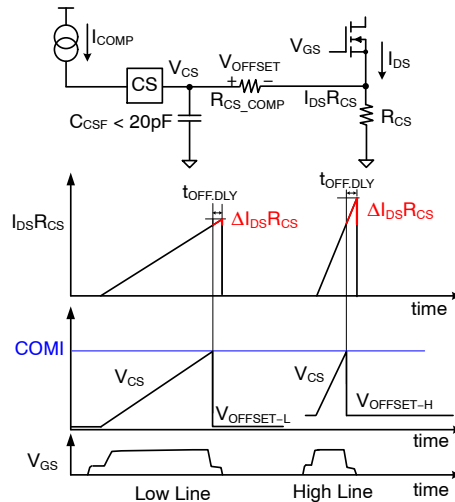
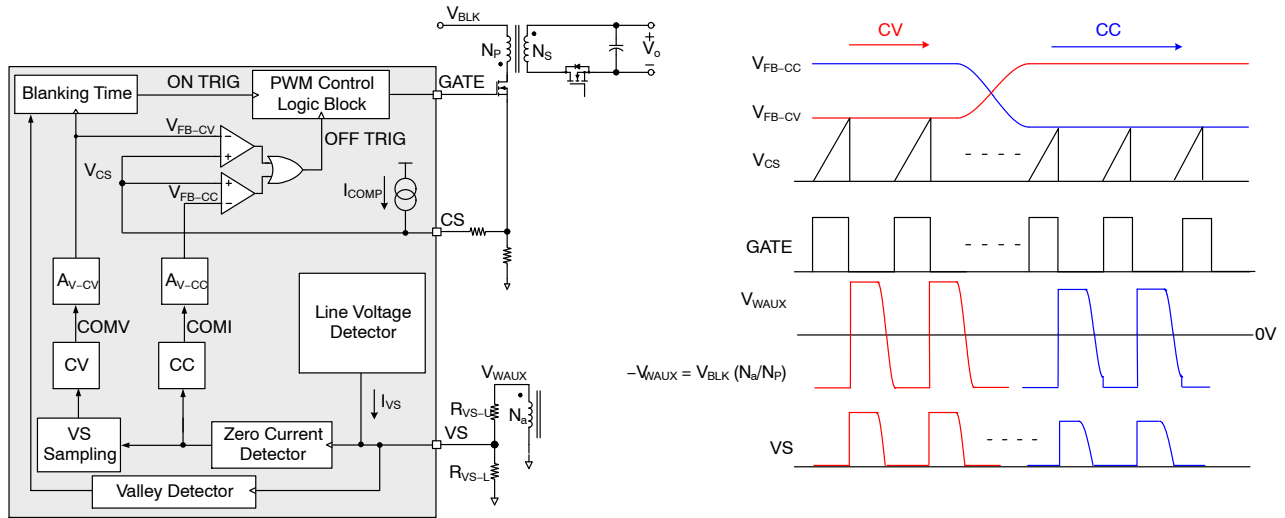

Figure 28. Line Voltage Compensation
Figure 29. Simplified PSR Flyback Converter Circuit
Line information is obtained through the line voltage detector as shown in Figure 29.  $I_{COMP}$  is an internal current source which is proportional to line voltage. The line compensation gain is programmed by using CS pin series resistor,  $R_{CS\_COMP}$  depending on the power FET turn-off delay ( $t_{OFF.DLY}$ ).  $I_{COMP}$  creates a voltage drop ( $V_{OFFSET}$ ) across  $R_{CS\_COMP}$ . This line compensation offset is proportional to the DC link capacitor voltage ( $V_{BLK}$ ) and turn-off delay ( $t_{OFF.DLY}$ ). Figure 28 demonstrates the effect of the line compensation.
Figure 29 shows a simplified CV / CC PWM control circuit of the FAN1080. The Constant Voltage (CV) regulation is implemented internally with primary-side control. The output signal of compensation (COMV) is scaled down by attenuator  $A_{V-CV}$  to generate a  $V_{FB-CV}$  signal. This  $V_{FB-CV}$  signal is applied to the PWM comparator to determine the duty cycle.
These two control signals,  $V_{FB-CV}$  and  $V_{FB-CC}$  are compared with a voltage of current sense ( $V_{CS}$ ) by two PWM comparators to determine the duty cycle. Figure 29 illustrates the outputs of two comparators combined with an OR gate, to determine the power FET turn-off instant. Either of  $V_{FB-CV}$  or  $V_{FB-CC}$ , the lower signal determines the duty cycle. During CV regulation,  $V_{FB-CV}$  determines the duty cycle while  $V_{FB-CC}$  is saturated to HIGH level. During CC regulation,  $V_{FB-CC}$  determines the duty cycle while  $V_{FB-CV}$  is saturated to HIGH level.